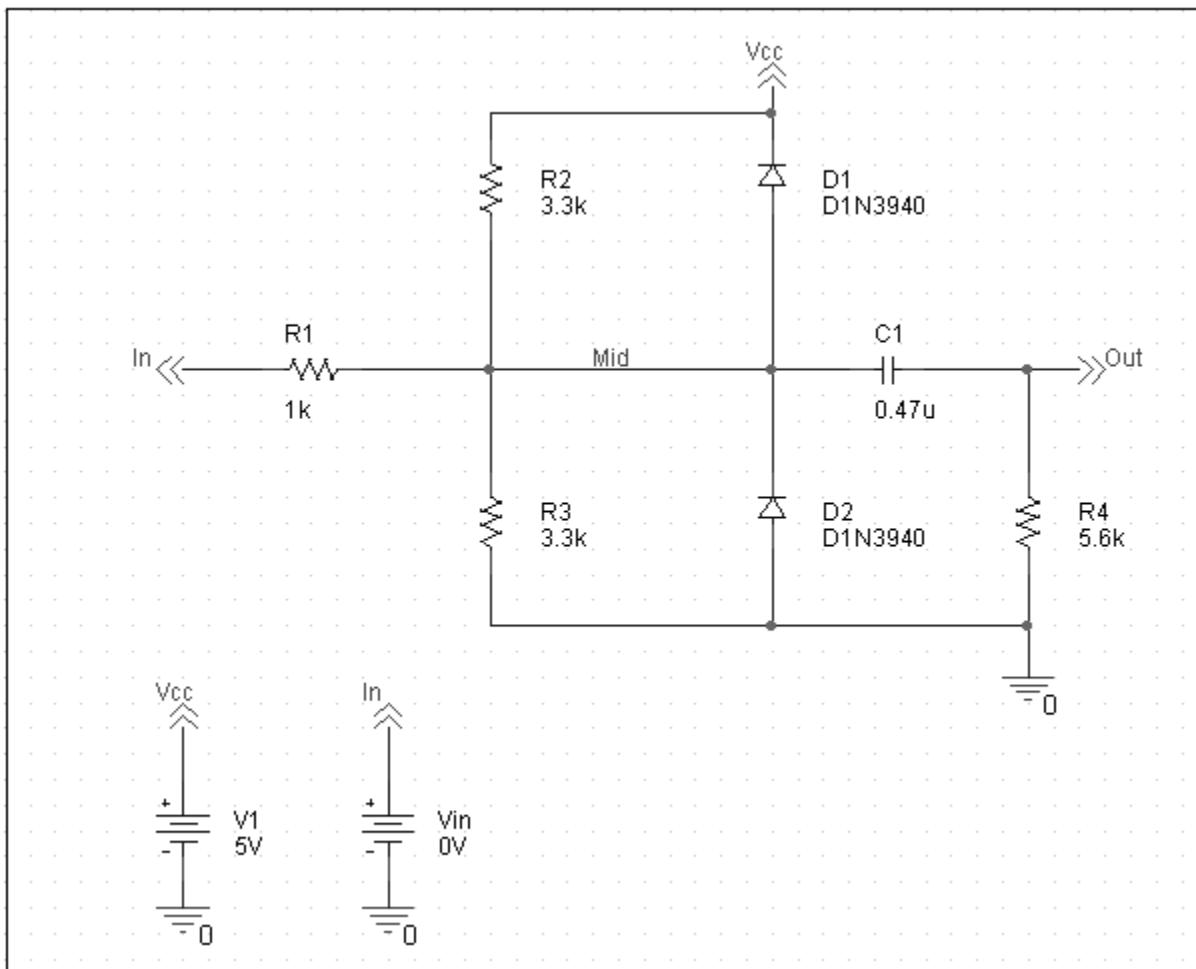

Figure 2-1 Diode clipper circuit.
This section describes how to use OrCAD Capture to create the simple diode clipper circuit shown in Figure 2-1.
6. Move the pointer to the correct position on the schematic page (see Figure 2-1) and click to place the first part.
- You will change part names and values that do not match those shown in Figure 2-1 later in this section.
2. Follow similar steps as described for the diodes to place the parts listed below, according to Figure 2-1 on page 74. The part names you need to type in the Part name text box of the Place Part dialog box are shown in parentheses:
5. Place the off-page connector parts according to Figure 2-1 on page 74.
3. Place the 0 ground part from SOURCE.OLB as shown in Figure 2-1 on page 74.
6. Continue connecting parts until the circuit is wired as shown in Figure 2-1 on page 74.
Label the off-page connectors as shown in Figure 2-1 on page 74.